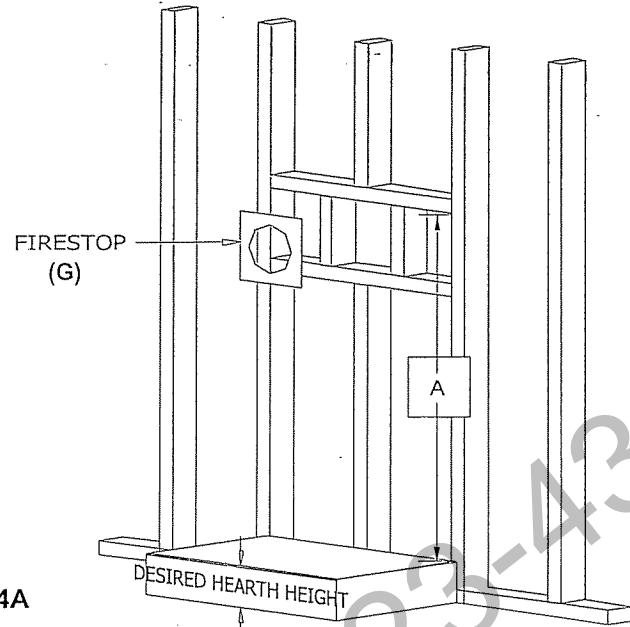

Fig. 4A
See Figure 4A.
7b. The flexible termination kit includes an interior firestop assembly (G) shown on figure 4A, page 6, which is installed on the inside wall (over wall materials), around the flexible pipe. Slide the firestop over the flex pipe with the spacer legs toward the wall. **OPTIONAL:** Apply a liberal bead of sealant around the outside / wallside edge and place over the 9 1/2" square opening.